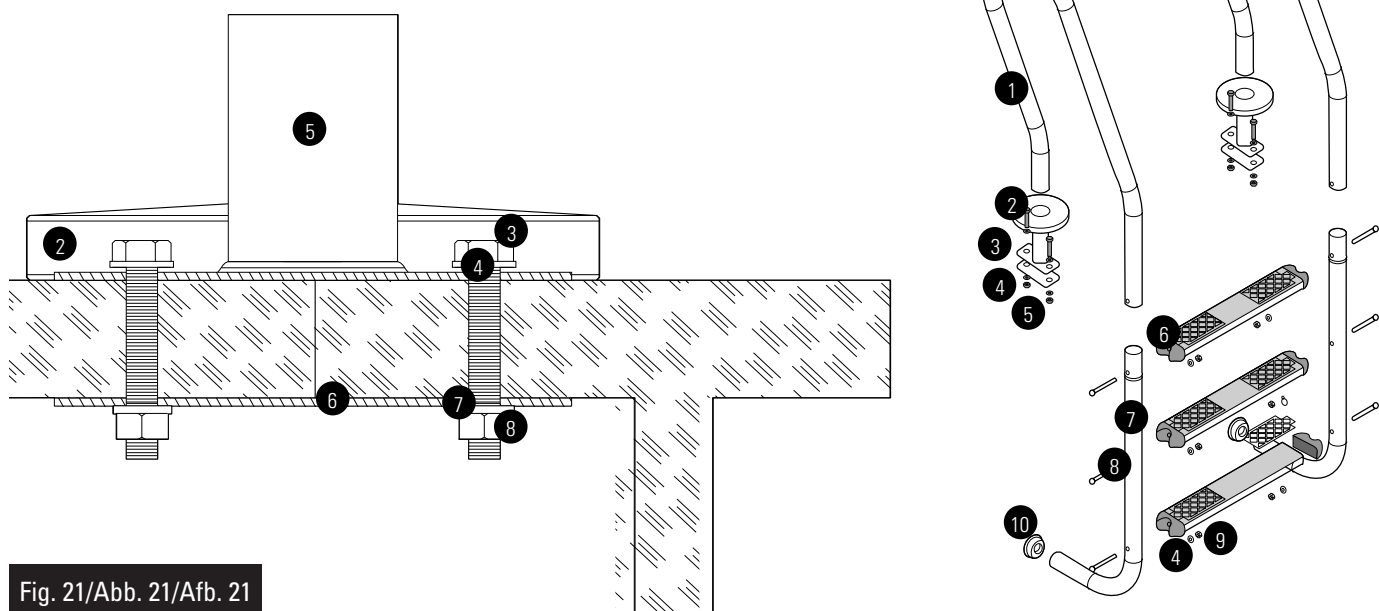

Fig. 21/Abb. 21/Afb. 21
- EN **A.-** Slot in the upper (1) and lower (10) handrails, fasten them with the steps (9) and the steps to the handrails using screws (11), nuts (8) and washers (7). (Fig.21)
**B.-** Assemble the end pieces (12) of the handrail so that the ladder cannot damage the pool.